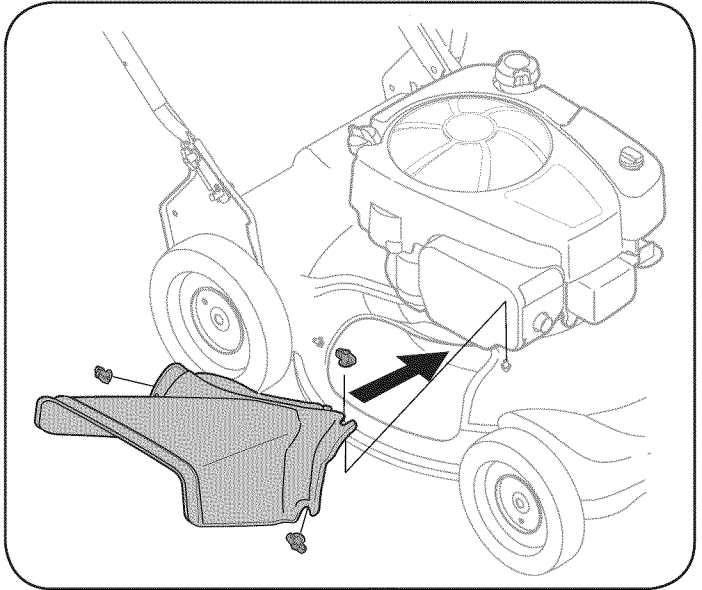

Figure 6
2. Attach side discharge cover to unit and secure with the three wing nuts. See Figure 6.